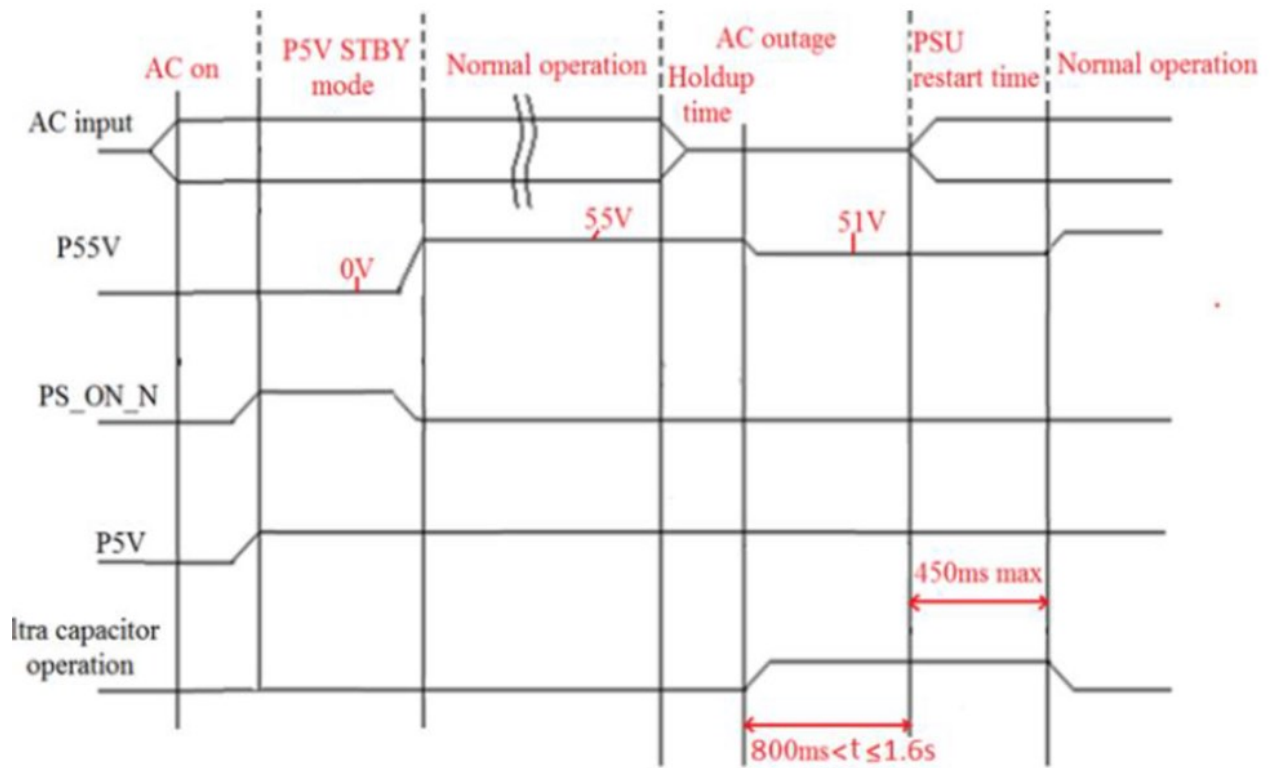

Fig 19 : Fast restart timings – outages between 800ms and 1.6s
- For outages ranging from 800ms up to 1.6s, maximum restart time is 450ms (Figure 19).